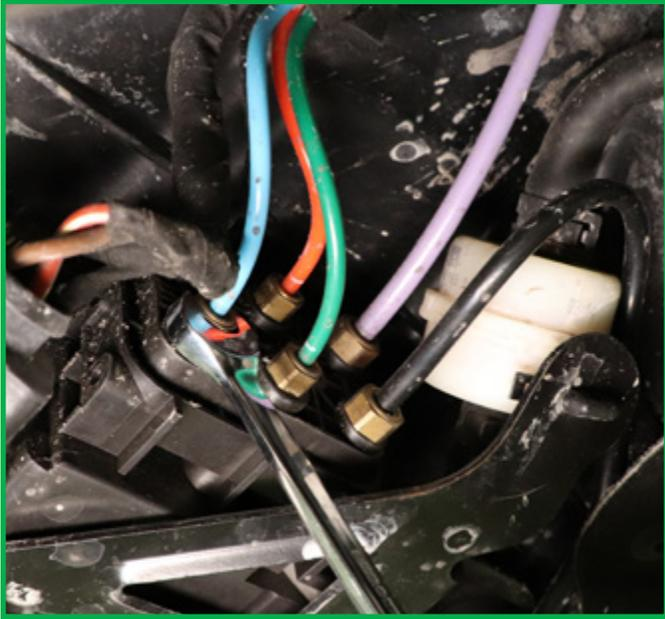

FIGURE 4
4. Remove the air lines. (Figures 4, 5)